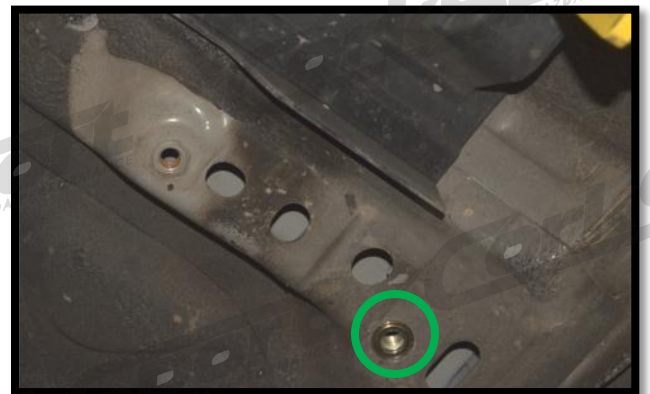

Figure 2c
- b) **Install RIV nut into the frame.** **Detailed instructions for RIV nuts are located in section 3.** (Figure 2b shows the passenger side frame where you install the RIV nut. Figure 2c shows the completed RIV nut).
- In order to install brace bar #2 and brace bar #3 (the two side pieces) you will need to install two RIV nuts.** **Detailed instructions for RIV nuts are located in section 3.** Locate the frame section that the factory cross brace was bolted to (**Figure 2b** shows the passenger side frame). *Tip: Before installing the RIV nut, place the second brace by hand to make sure you have the correct hole.* Place the supplied RIV nut and installation tool into the empty hole (**circled in green in Figure 2b**). Make sure to use the additional collar for the RIV nut. Install the RIV nut. (**Figure 2c** shows the installed RIV nut).